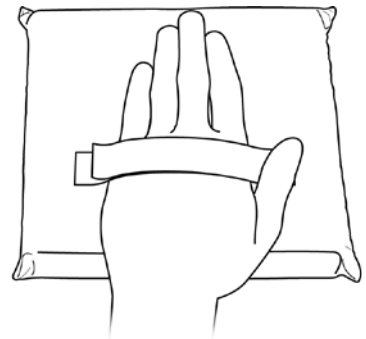

FIGURE 10
- The Press Pad is ideal for steaming collars, cuffs and edges to create crisp creases in fabric. Slide your hand through the strap on back of Press Pad to secure it to your hand (FIGURE 10) – this will protect your hand from the flow of hot steam. Then press fabric firmly between Steam Nozzle and Press Pad.